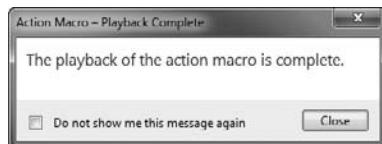

FIGURE 6.54 The Action Macro dialog box
12. Click Close when the Action Macro dialog box indicates the macro has run through completion (see Figure 6.54).